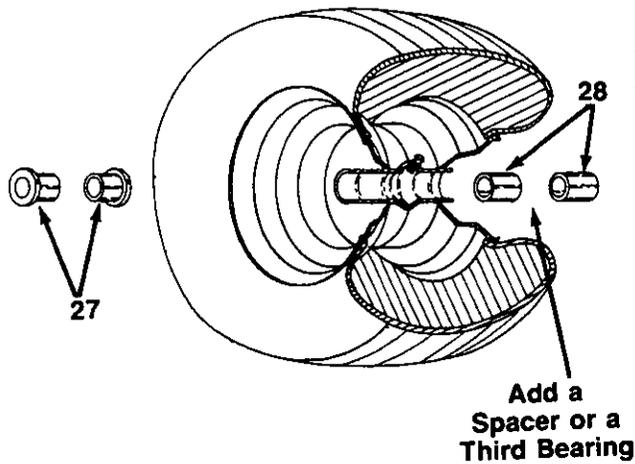

FIGURE 8.
8. On front wheel bearings, units may be equipped with flange bearings or needle bearings. See figure 8.
9. If rider has flange bearings, check for wear and replace if necessary. See figure 8.
10. If rider has needle bearings, you will need to add a third needle bearing between bearings, or make a spacer to go between two needle bearings. See figure 8.